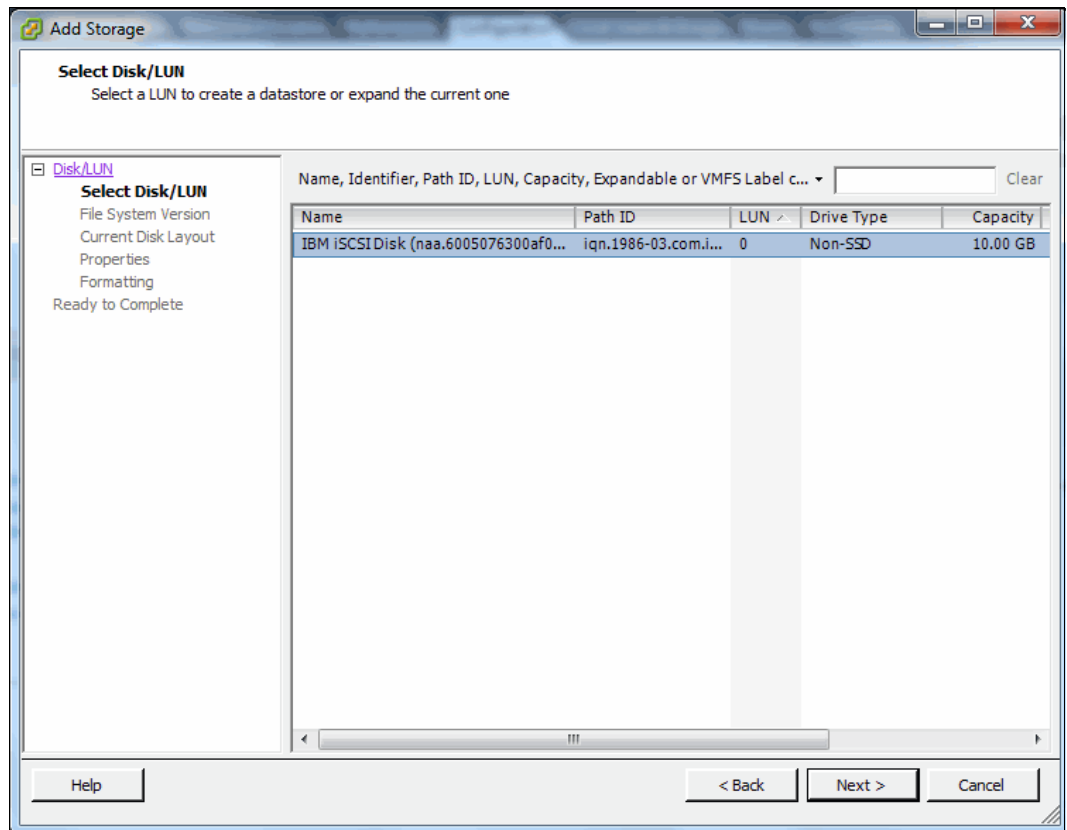

Figure 5-65 Choosing the disk or LUN from which to create the new data store
3. The available disks and LUNs (mapped volumes) will be listed on the next page, as shown in Figure 5-65. Select a volume to create the data store from. In this example, we have just one mapped volume, so the choice is easy.